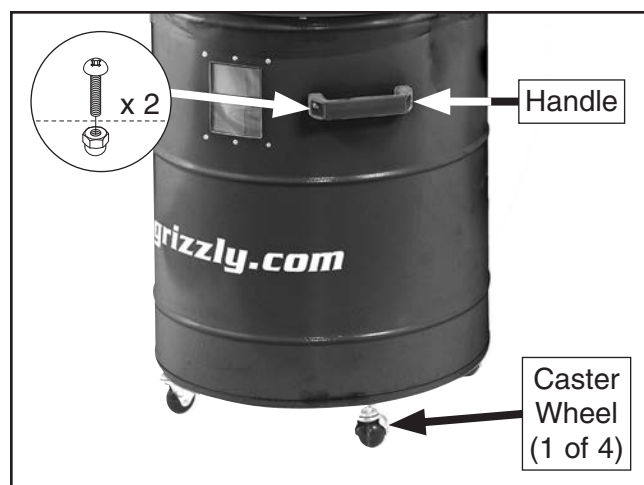

Figure 12. Handle and caster wheels installed on collection drum.
15. Install (4) caster wheels on bottom of collection drum. Then attach handle to drum with (2) $\frac{1}{4}$ "-20 x $\frac{5}{8}$ " Phillips head screws and (2) $\frac{1}{4}$ "-20 acorn nuts (see **Figure 12**).